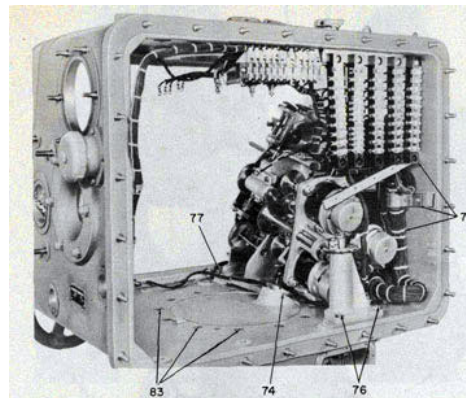

Figure 121-Removal of Back Post and Transmitter.
74. Loosen and remove the case flange nut 168019-1. See figure 121.
75. To disassemble the transmitter, break and unlace all terminal connections in the director case. See figures 121 and 123.
. 76. Then, remove the back post by withdrawing three mounting bolts. Identify and locate these bolts so they can be replaced in their original positions. Figure 121.
Now, tip and lay transmitter on its left side. See figure 121.
83. To remove the case from the stand; first, loosen main cable from stand terminals then, loosen and remove 12 fiat head mounting screws in the bottom of the case. See figure 121.